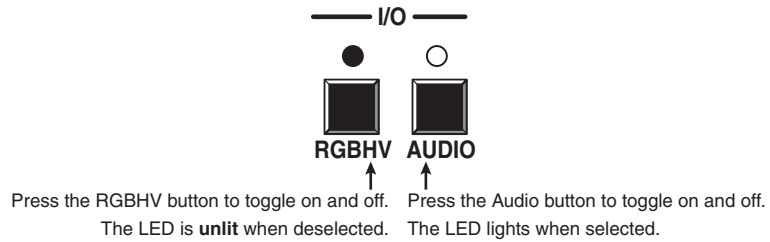

Figure 3-16 — Select audio only
2. To select audio only for the tie, if necessary, press and release the RGBHV button and/or Audio button (figure 3-16).